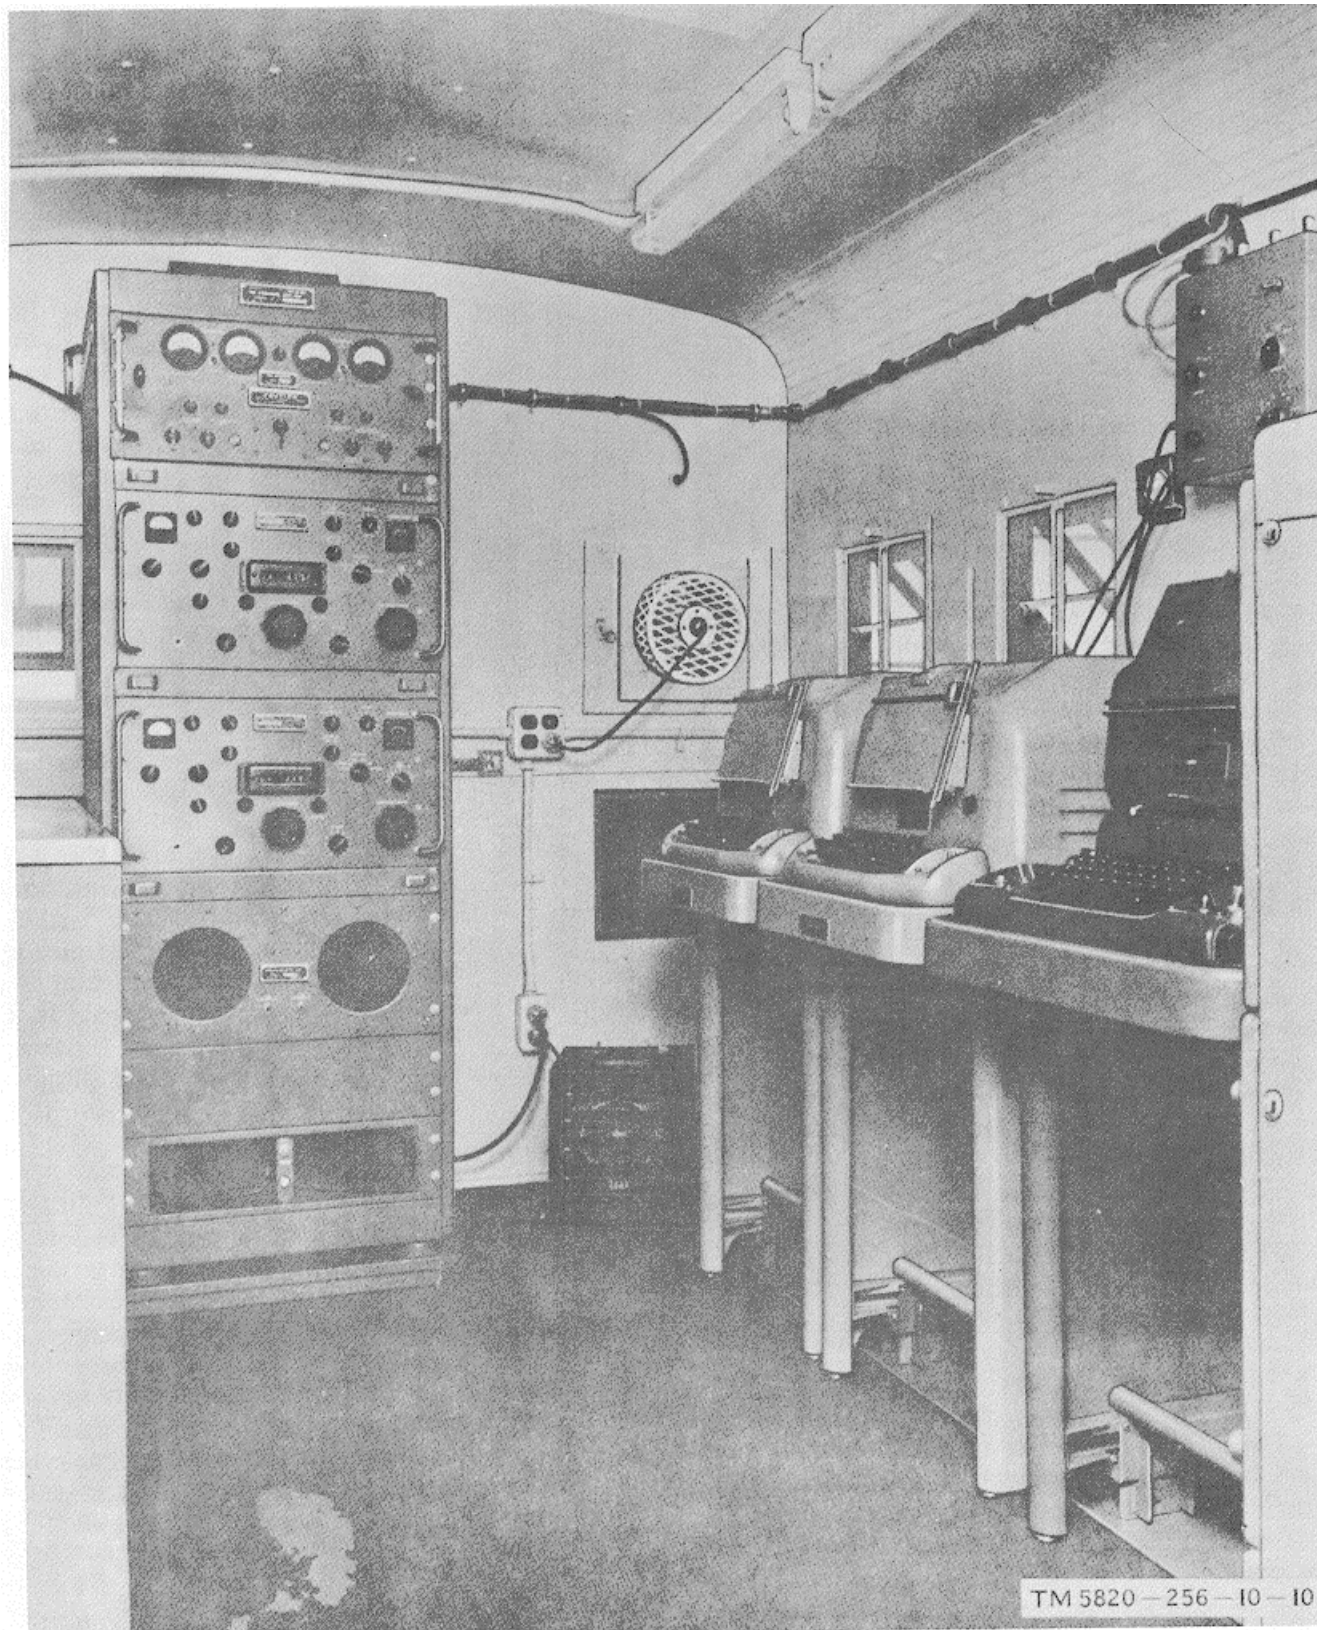

Figure 1-4. Radio Set AN/GRC-26D, interior front view.
Figures 1-4 through 1-10 show interior views of the shelter.
1-9. Blower Assembly, Electrical HD-223/G (fig. 1-4)
a. The control unit (fig. 1-4) is the control center for the radio set. The control unit routes the signals to be transmitted or received to the proper components of the radio set for each particular type of operation (fsk, am, voice, cw, fsk am., and cryptographic (crypto)). The control unit receives mark and space signals from the
1-11. Converter, Frequency Shift CV-1 16(*)/ URR (fig. 1-4)
(fig. 1-4)
(fig. 1-4 and 1-9)
a. *Cabinet, Electrical Equipment CY-1807/G* (fig. 1-4). The metal equipment cabinet is a rack-type cabinet that houses the two receivers, a converter, a speaker assembly, and Blower Assembly, Electrical HD-223/G. The equipment cabinet is shock mounted to the floor and wall of the shelter. A stainless-steel utility table can be fastened to the front of the equipment cabinet at the correct servicing height for the three major components in the equipment cabinet. When not in use, the utility table is attached to the shelter wall by brackets.
b. *Cabinet, Storage CY-1721(*)/GRC* (fig. 1-4) The storage cabinet is adjacent to the roadside wall of the shelter and is secured to the shelter floor and wall by rotolock fasteners. The metallic cabinet has an exterior finish of smooth, gray enamel. The tabletop of the storage cabinet is of Formica material. Sliding drawers with rollers provide storage for minor components and accessories of the radio set.
c. *Clock* (fig. 1-4). The clock is mounted in a metal case. The mounting frame has four holes which are for mounting of the dock on the curt>side wall above the teletypewriter equipment.
d. *Heater* (fig. 1-4). The heater is housed in a black metal case with a cast aluminum grid. It operates on 115-volt, 50- to 60-Hertz (Hz), single-phase ac and consumes 1,500 watts. A thermal reset switch is on the front panel below the grid.